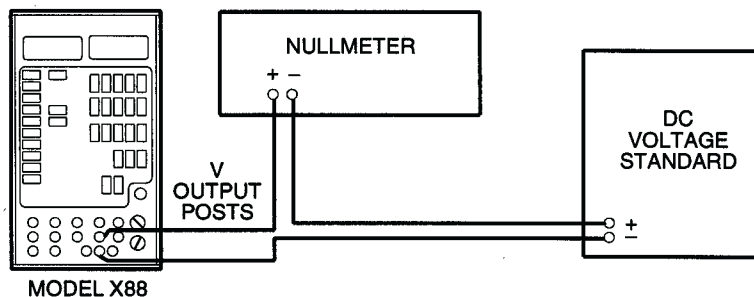

Figure 4-5: Voltage Output Measurement.
- a) Connect the Model X88 Portable Calibrator, the dc voltage standard and the nullmeter as shown in Figure 4-5. All potentiometer adjustments referred to in this section are located on P.C. board X88-1003.
- a) The test setup remains as shown in figure 4-5.
- b) Connect the Model X88 in configuration shown in Figure 4-5. (Copper wiring is to be used).